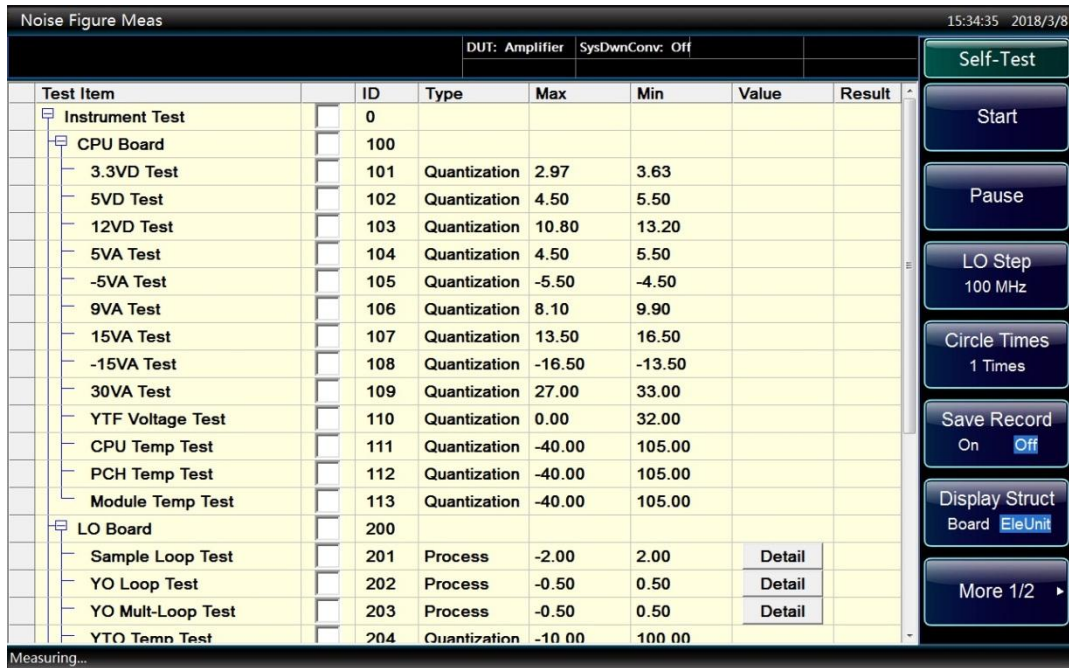

Fig. 2.9 Self Test Screen of Series 3986
- Step 3.** Select the items to be tested and click [Start] soft menu to start the test, and the test results are shown in the column Result, as shown in Fig. 2.9. Check the test results: all passed indicates the analyzer works normally; any failed item indicates the analyzer work abnormally in the corresponding aspect, please contact our service hotline provided in this manual and we will repair or replace them quickly as appropriate. After the above two steps are successfully completed, the analyzer is ready for operate.